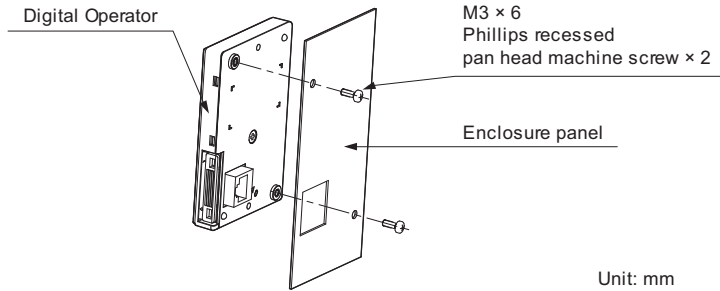

Figure 2.9 External/Face-Mount Installation
2. Position the digital operator so the display faces outwards, and mount it to the enclosure panel as shown in Figure 2.9.